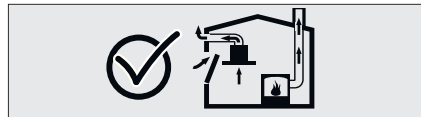

Fig. 3
- Therefore, adequate fresh air ingress must always be ensured.Fig. 3